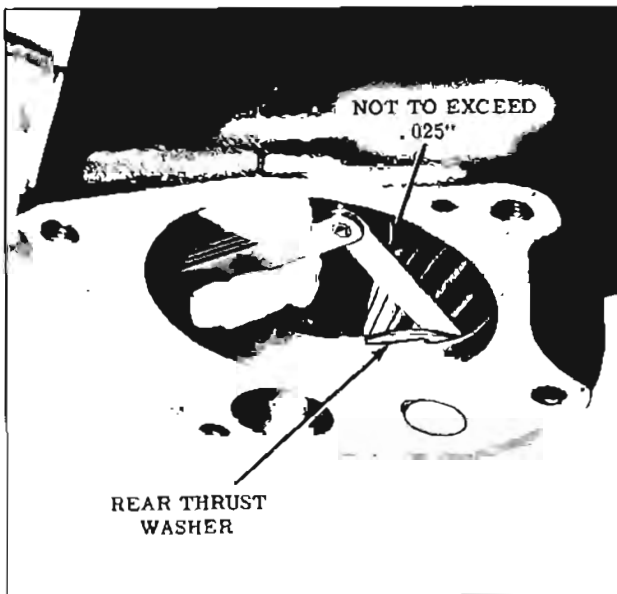

Fig. 11-223 Checking Counter Gear End Play
1. Check the counter gear end play with a feeler gauge between the rear thrust washer and the counter gear as shown in Fig. 11-223. Record for reassembly. The end play must not exceed .025\".